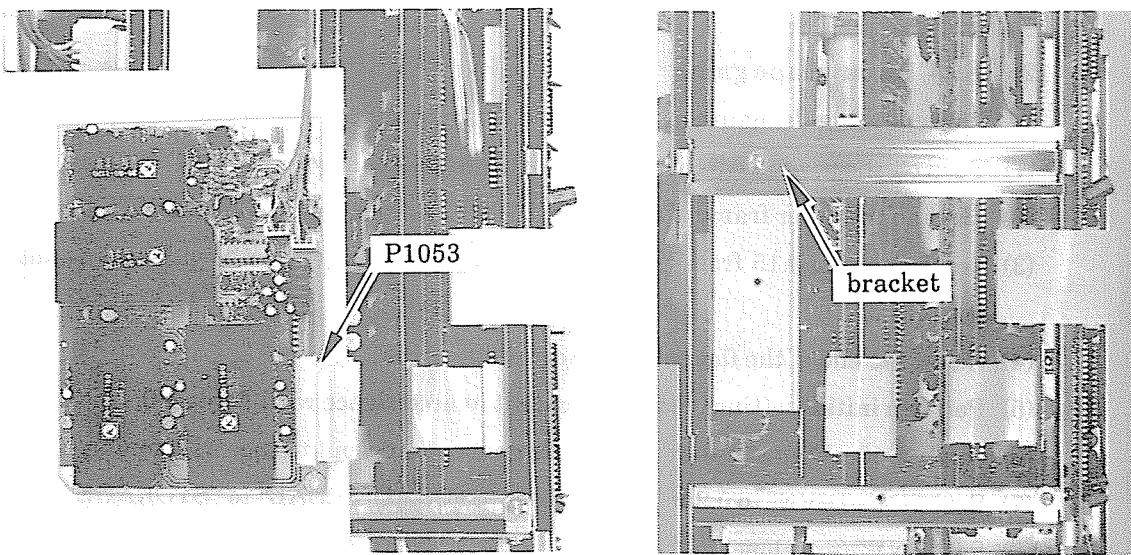
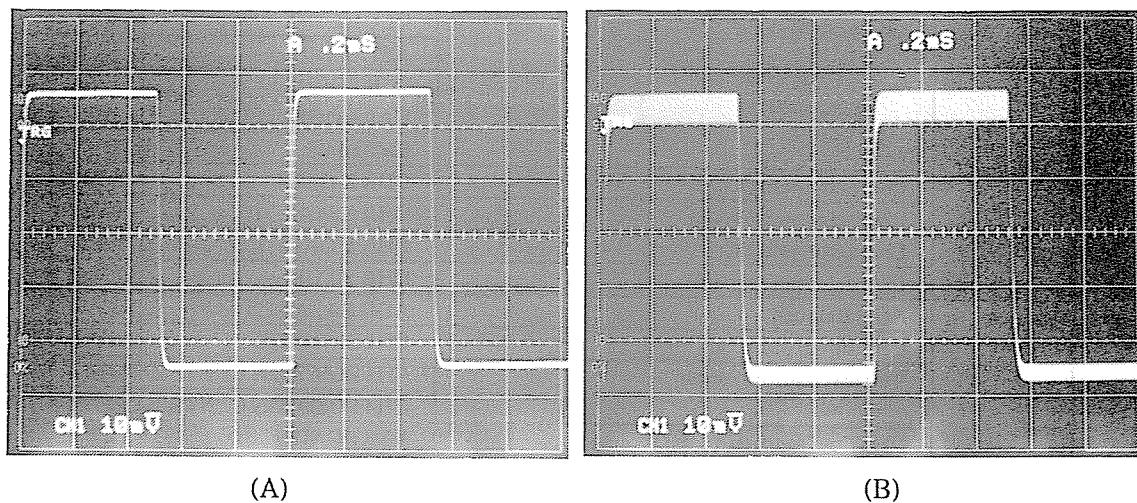

Fig. 4-41 Positions of BRACKET and CONNECTOR (P1053)
Fig. 4-43 Waveform when adjusting envelope gain
- (1) Turn off the power switch, and remove the bracket shown in Fig. 4-41.
- (2) Slacken the outer frame of connector P1053, and remove the flat cable.
- (3) Remove board A15 from the chassis, and place it on the unit with an insulating sheet beneath it.
- (4) Insert the end of the flat cable into connector P1053.
- (5) Perform initial setting of the instrument in accordance with Table 4-3.
- (6) Apply a 50mVp-p standard amplitude generator output to the CH1 input.
- (7) Set "TIME/DIVE" to 0.2ns/DIV, and set "STORAGE/REAL" to "STORAGE".
- (8) Set "ENV" (envelope) to "ON".
- (9) Confirm that a clean sine wave appears on the CRT screen, as shown in Fig. 4-43 (A). If the waveform contains a noise component as shown in Fig. 4-43 (B) adjust CH1 BOTTOM GAIN (RV6) and also CH1 PEAK GAIN (RV5) on board A15 shown in Fig. 4-44.
- (10) Set "TIME/DIV" TO CH2 ONLY, and connect the signal output to CH2.
- (11) Like CH1, confirm that the waveform on the CRT screen is clean as shown in Fig. 4-43 (A).
If the waveform contains noise as shown in Fig. 4-43(B), adjust CH2 BOTTOM GAIN (RV4) and CH2 PEAK GAIN (RV3) on board A15 shown in Fig. 4-44 so that the amplitude of the waveform is  $5 \text{ DIV} \pm 0.1 \text{ DIV}$